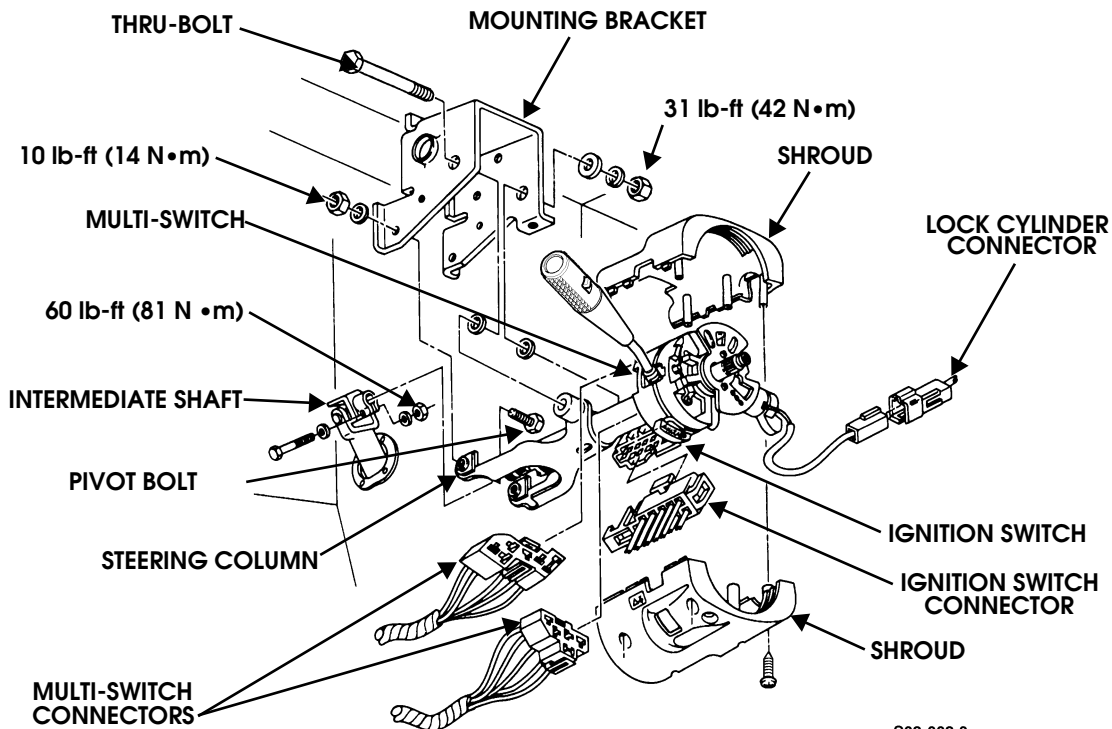

Figure 8-11: Steering Column Components
3. Remove locknut, lockwasher, three washers, and thru-bolt from mounting bracket and loosen pivot bolts. Column will drop down as it pivots in bracket (Figure 8-11).
4. Remove bolt on intermediate shaft yoke and pull yoke from splines (Figure 8-11).
2. Install ignition switch and multi-switch on steering column (Figure 8-11).